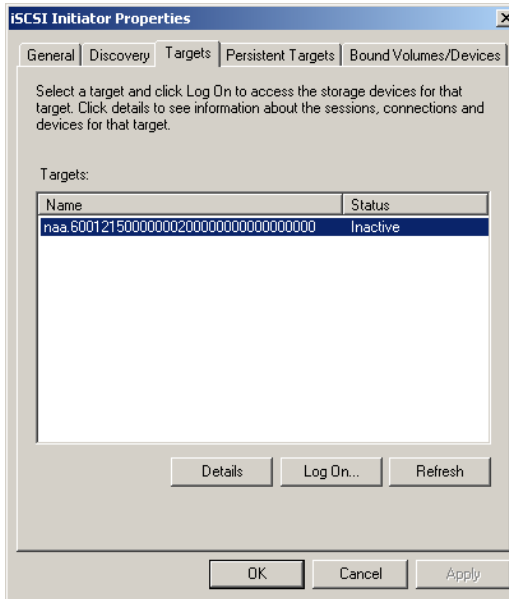

Figure 5-37. Targets Tab on the iSCSI Initiator Properties Dialog Box
- Click the **Targets** tab (see Figure 5-37). Notice that the iSCSI initiator software lists the target node name. It found this name after you entered the IP address or DNS name of the iSCSI target node.